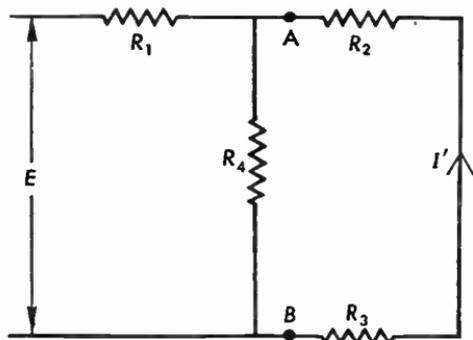

Fig. 2.24a Series-parallel circuit.
2.24 In the circuit of Figure 2.24a, $E = 100$ volts, $R_1 = R_2 = R_3 = R_4 = 5$ ohms. Find I' .